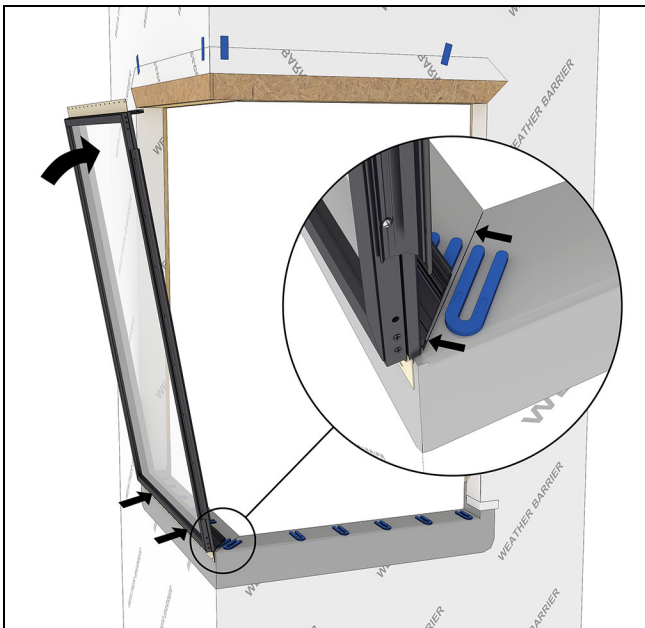

Figure 38
2. Place the left window with the center bracket into the RO. Align the center jamb closely to the center-line drawn on the RO. See Figure 38.